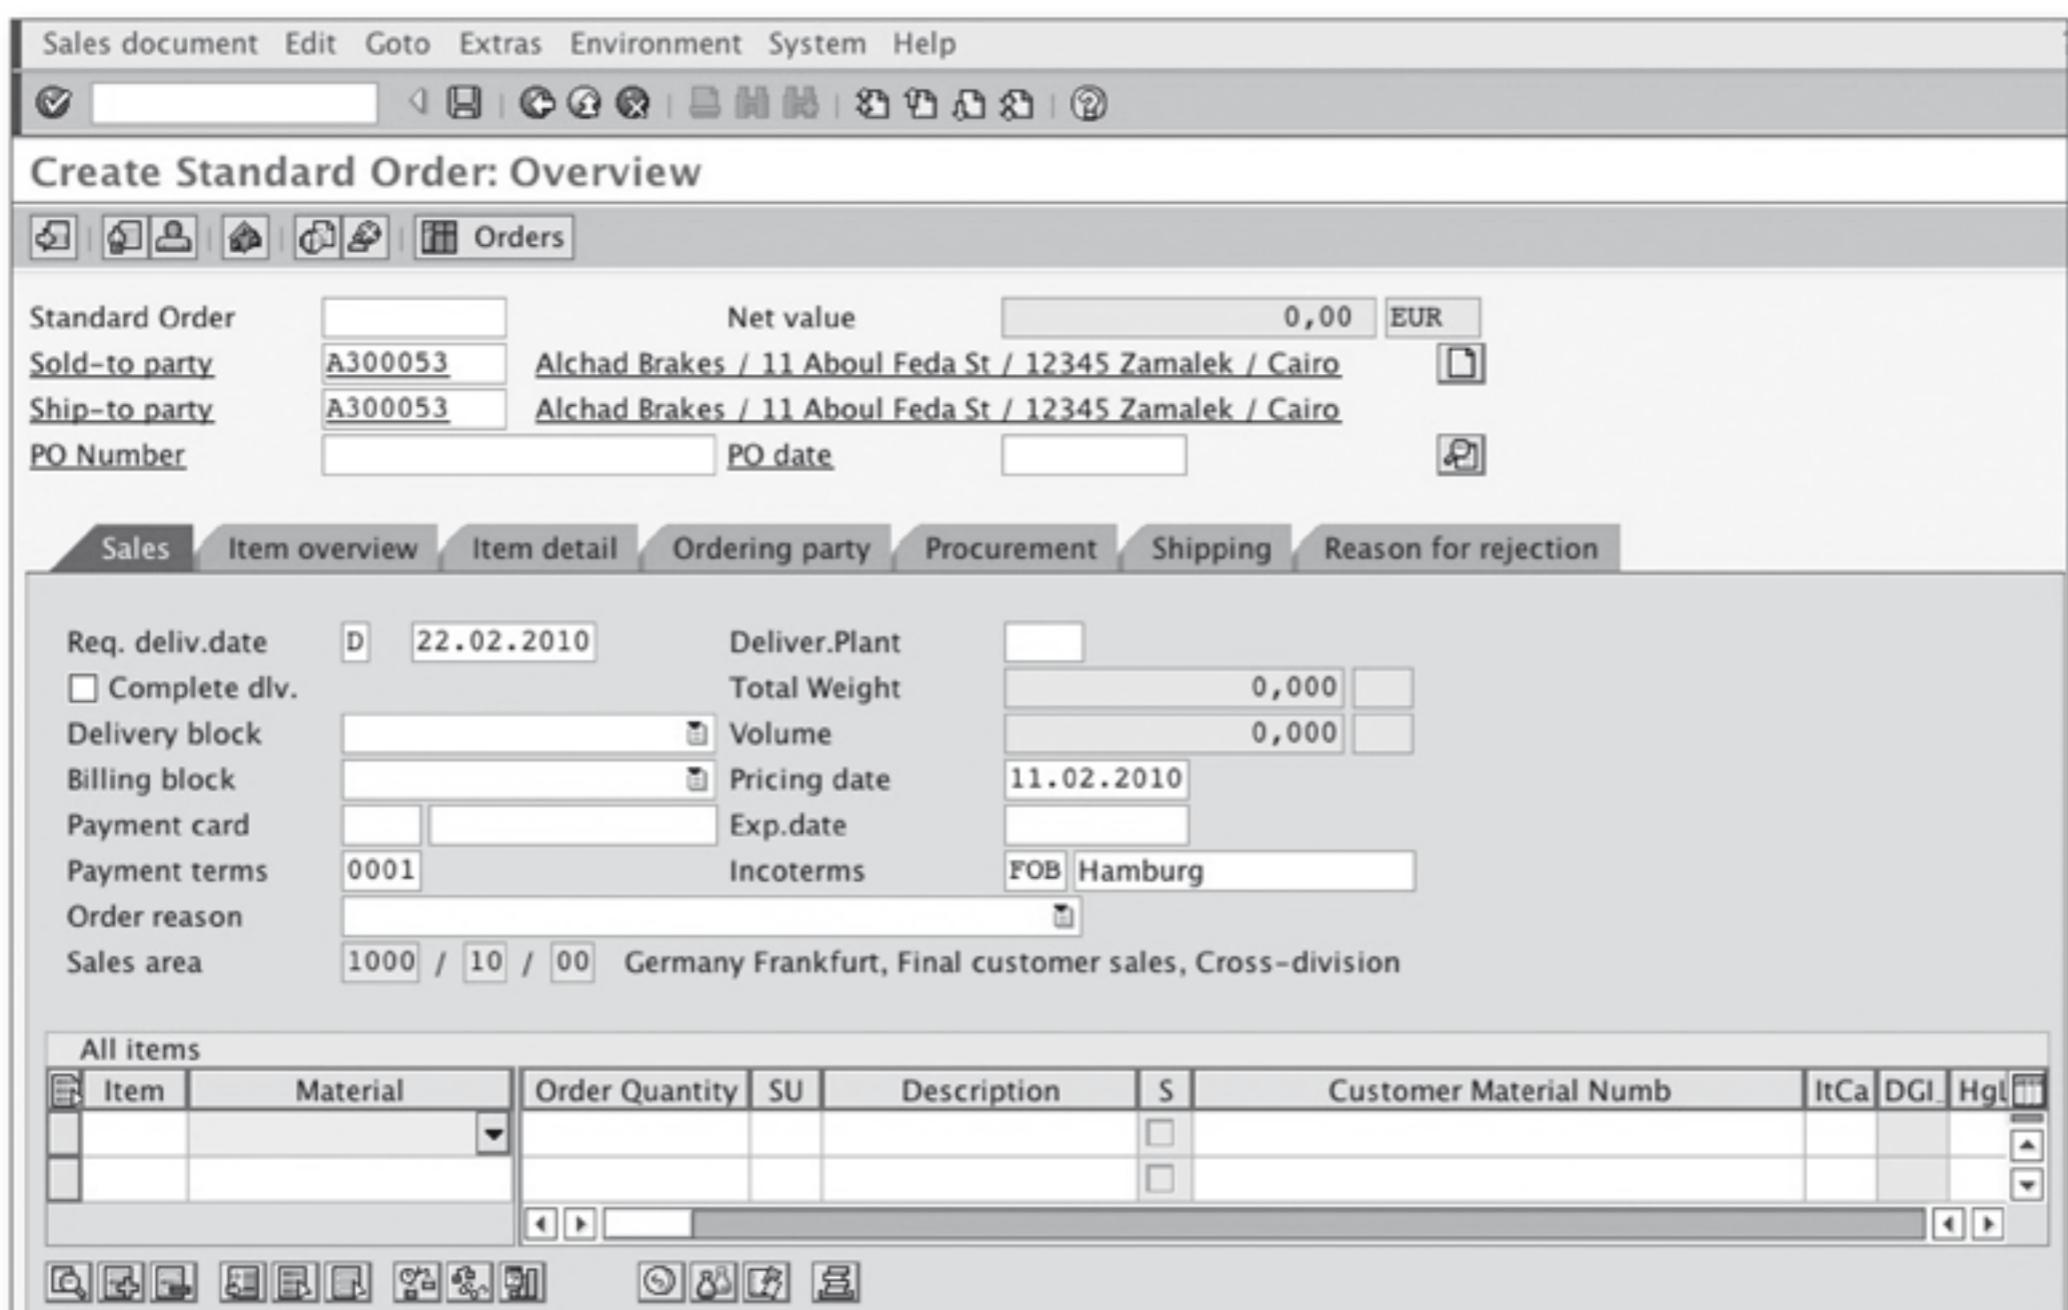

Figure 3.13 Create Standard Order: Overview Screen
3. Enter the number for the Customer Sold-To that you've maintained in your item proposal, as shown in Figure 3.13, and press **Enter** to determine other partners.
2. Enter the number for the Customer Sold-To that you've maintained in your item proposal, as shown earlier in Figure 3.13, and press **Enter** to determine the other partners.